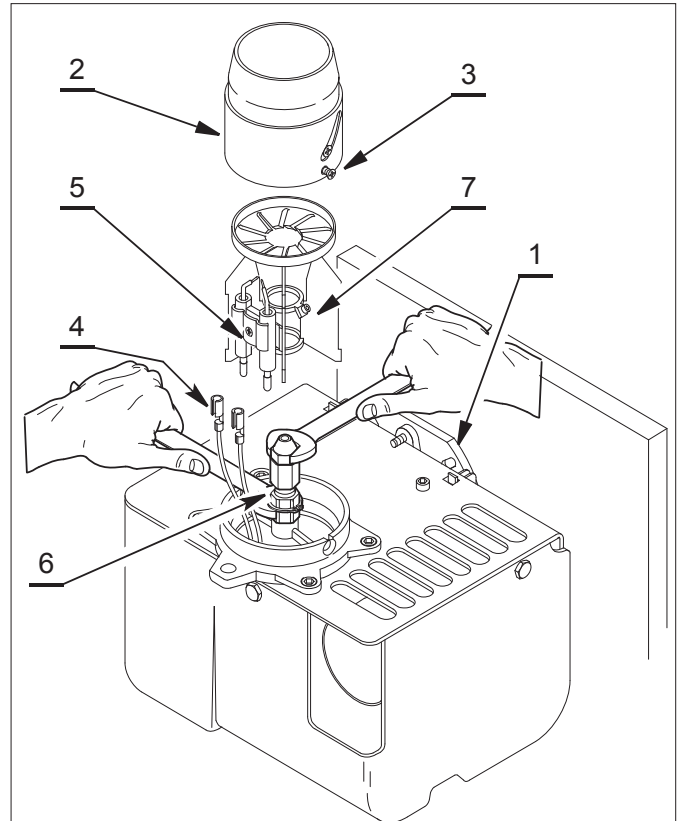
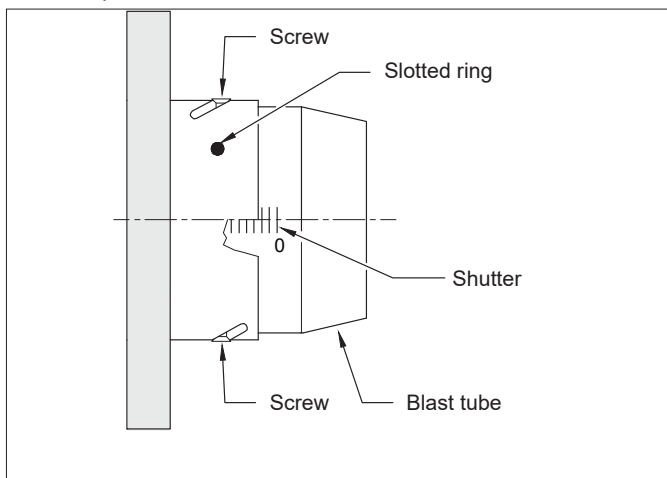

Figure 10-8: Riello RDB 3.2 burner head, diffuser and nozzle holder
Figure 10-10: Riello RDB 3.2 combustion head adjustment
4. Remove the burner head. Refer to Figure 10-8. Loosen both fixing screws (3) and remove head from burner (2).
6. If the nozzle needs to be replaced - Remove the diffuser/ electrode assembly. Refer to Figure 10-8.
- Loosen the diffuser clamp screw (7) and remove the diffuser/electrode assembly from the nozzle holder (6).
- Disconnect both ignition leads (4) from the electrodes.
10. Refer to figure 10-8. Slide diffuser (5) along the nozzle holder (6) until hard against the stop and tighten diffuser clamp screw (7).
12. Re-fit the burner head. Refer to Figure 10-8.
- Tighten the two screws (3) to secure the head (2) in position on the burner.
- In this case the head is set to '4' (i.e. on the 4th line). Refer to Figure 10-10.
- Loosen the two screws in the curved slots in outer ring of the head (NOT the two head fixing screws). Refer to Figure 10-10.